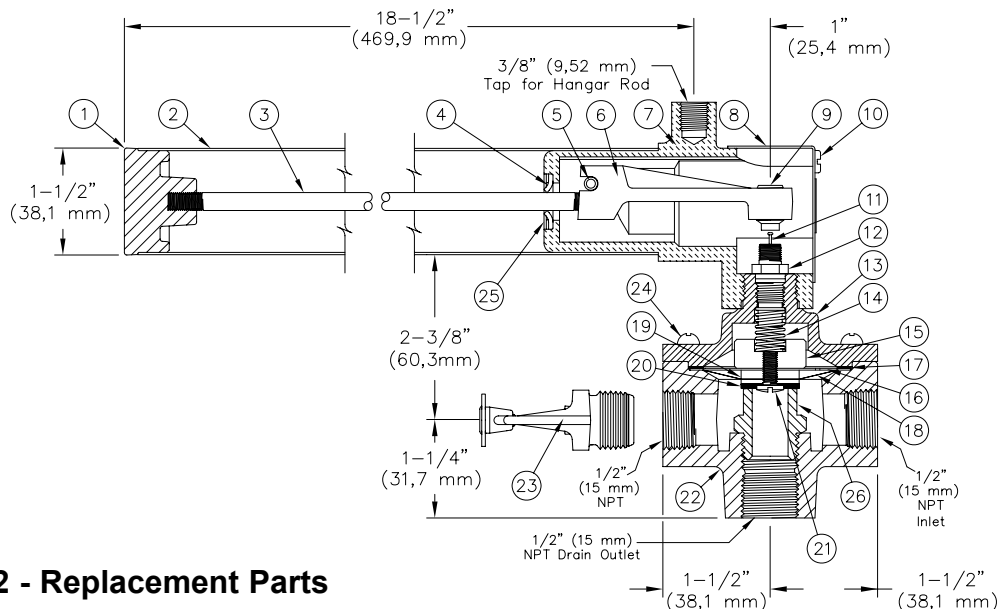

Figure 2 - Replacement Parts
C. Maintenance (Refer To Figure 2.)